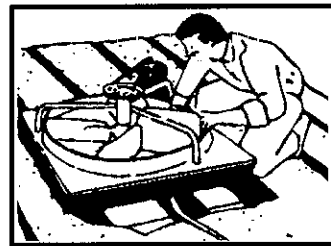

Figure 12
9. Cut and/or notch skirt material as necessary to fit around the wood plenum enclosing the area between the fan and the ceiling. Use duct tape to seal all joists and seams to assure fan efficiency. Replace insulation around the fan plenum (See Figure 12)